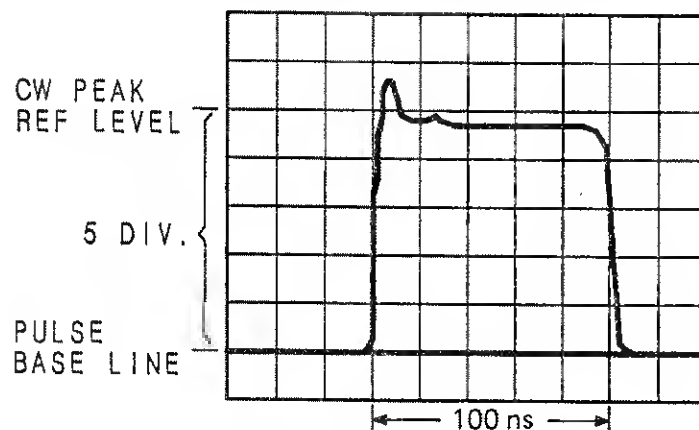

Figure 4-7. Pulse Accuracy Measurement
9. Switch back to pulse mode. Without touching the vertical sensitivity controls, measure the difference between the CW peak reference level and the average peak pulse level excluding any over/undershoot. See Figure 4-7.